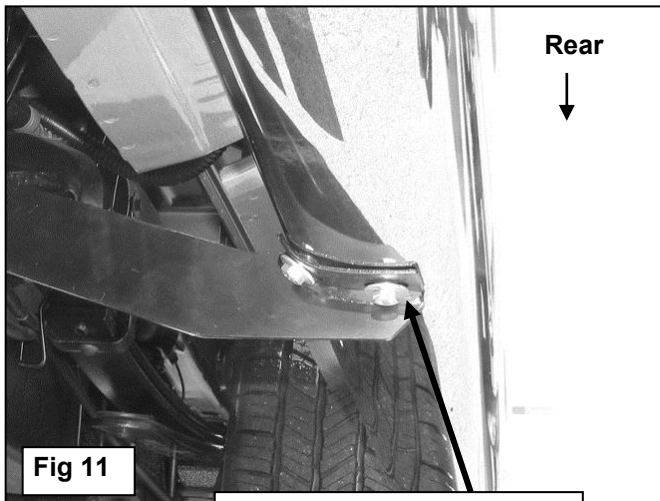

Fig 11
- Carefully position the Driver Sidebar onto the Mounting Brackets. Attach the Sidebar to the Mounting Brackets with (6) 8mm x 25mm Hex Bolts, (6) 8mm Lock Washers and (6) 8mm Flat Washers, (Figure 11). Do not tighten hardware at this time.